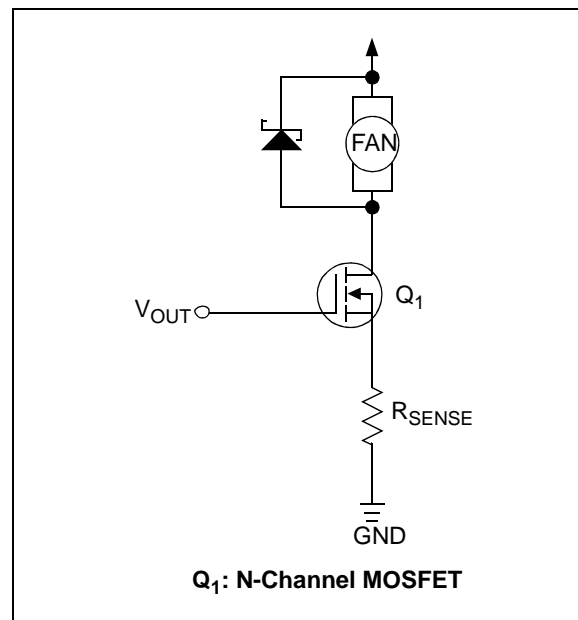

FIGURE 5-6: Clamp Diode For Fan Turn-Off.
- Ask how the fan is designed. If the fan has clamp diodes internally, this problem will not be seen. If the fan does not have internal clamp diodes, it is a good idea to put one externally (Figure 5-6). Putting a resistor between V_{OUT} and the gate of the MOSFET will also help slow down the turn-off and limit this condition.